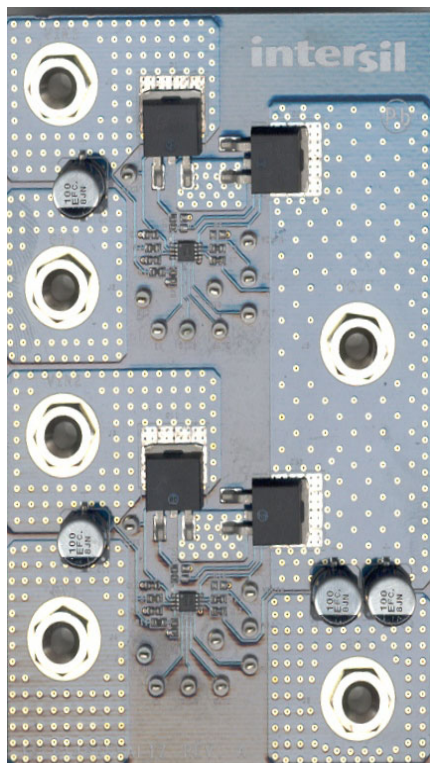

FIGURE 56. ISL6146AEVAL1Z
**Figures 56 through 61** illustrate the three ISL6146 evaluation boards for the three typical applications in photograph and schematic form.